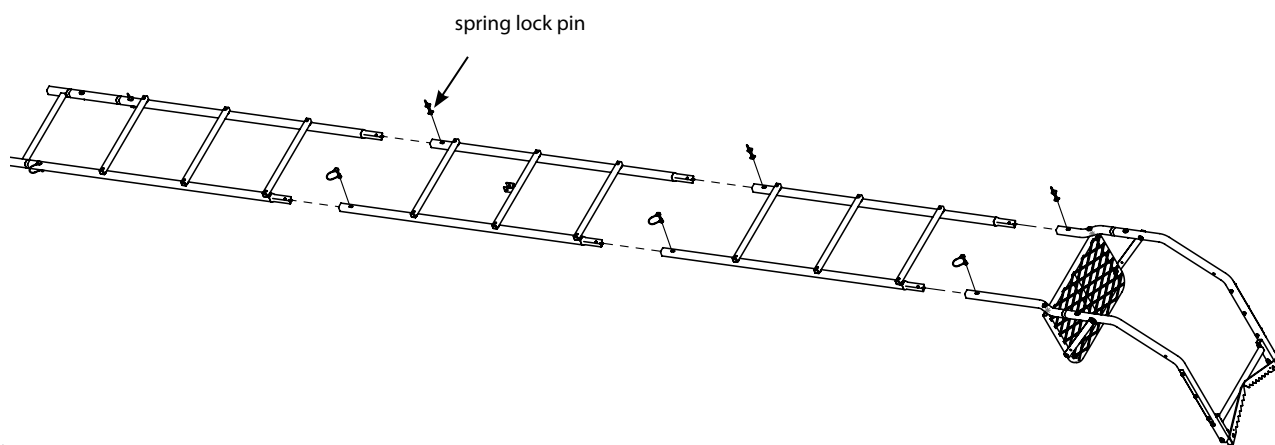

Figure 6
8. Sections are assembled on the ground in the following order; bottom section (410032 ladder with assembled base extension [locking rung]); second section (410035 ladder with stabilizer bar mount); third section (410032 ladder); top section (assembled top platform section). Make sure assembled ladder sections have the steps positioned on the same side outward, away from tree for climbing. **SEE FIGURE 6 AND FINISHED ONSET™ LADDER.**
9. With all sections assembled together on ground, secure all sections together using (6) provided spring lock pins. Handle of spring lock pin must be put to the outside of ladder side rails. **SEE FIGURE 6.** In total, you should now have **8 spring lock pins** on the ladder assembly that are securing all sections together.